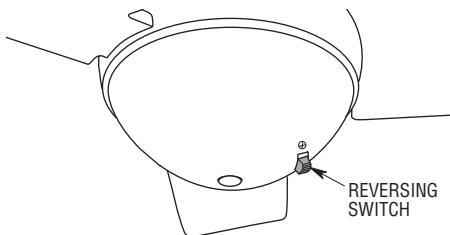

Figure 20
- 3. All fans are shipped from the factory with the reversing switch positioned to circulate air downward. If airflow is desired in opposite direction, turn your fan OFF and wait for the blades to stop turning, then slide the reversing switch to the opposite position, and turn fan on again (Figure 20).